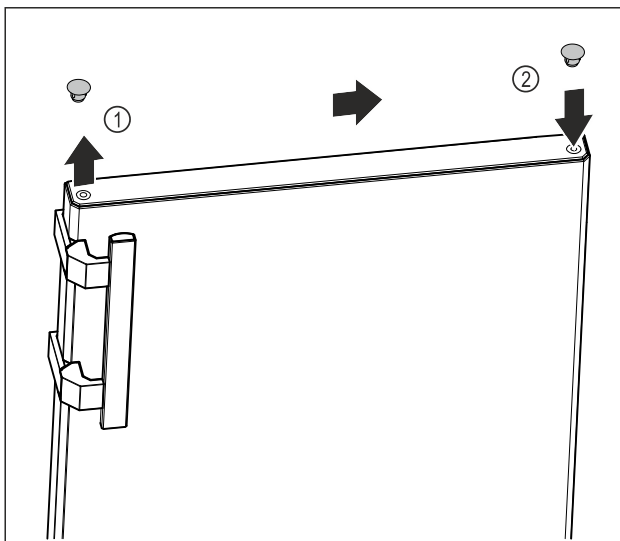

Fig. 13
- ▶ Carefully lift the cover plug on the top of the door Fig. 13 (1) with a slotted screwdriver.
- ▶ Insert the cover plug on the opposite side. Fig. 13 (2)